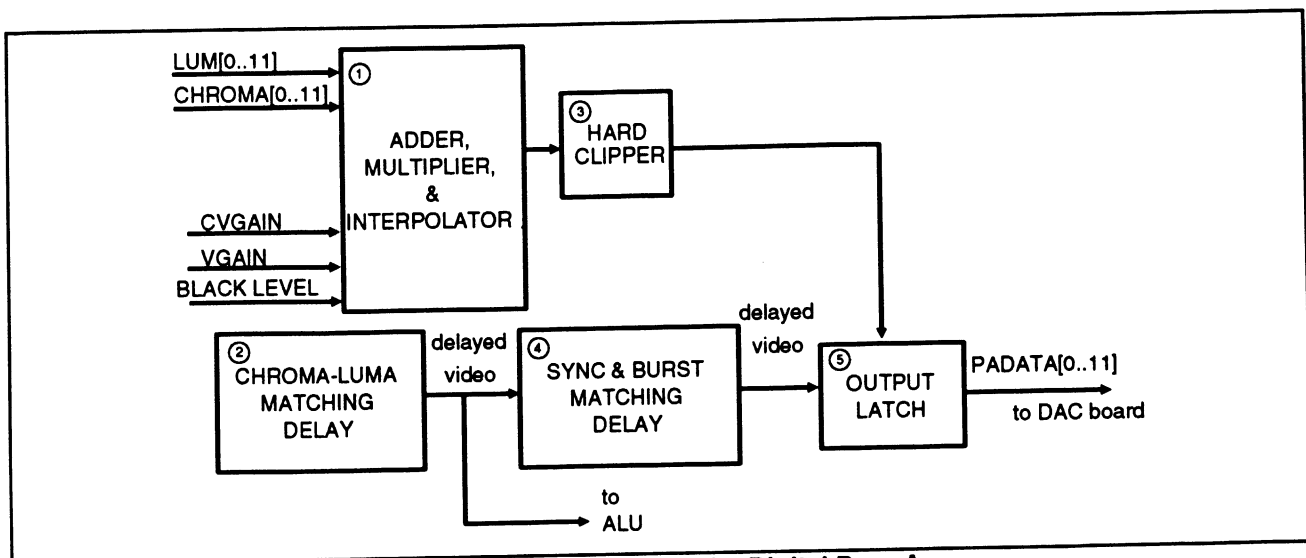

Fig. 2-16. Block diagram of the Digital Proc Amp.
② DIGITAL PROC AMP (See Fig. 2-16)
① Adder, Multiplier, & Interpolator